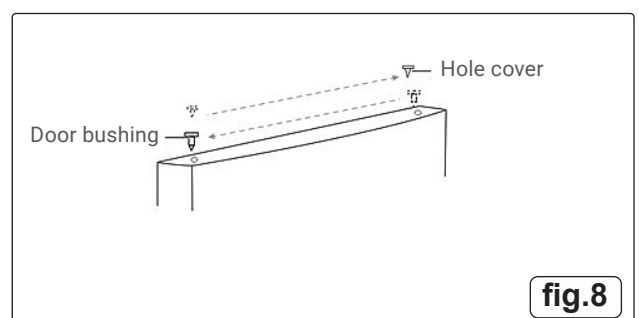

fig.8
10. Transfer the door bushing from the top right to the top left of the refrigerator door. Move the hole cover from the top left to the top right. Fig.8
11. Attach the upper hinge to the top left side of the cabinet using the three previously removed screws. Before tightening, ensure the top of the door is level with the cabinet and the rubber gasket seals properly. Fig.8